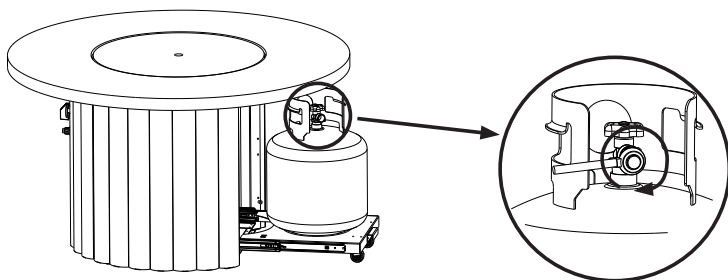

Figure E.3
3. Make sure the propane tank valve and burner control valve are both in the "OFF" position, connect regulator hose to the propane tank. **Hand-tighten this connection. DO NOT USE TOOLS FOR THIS STEP.** See Figure E.3.